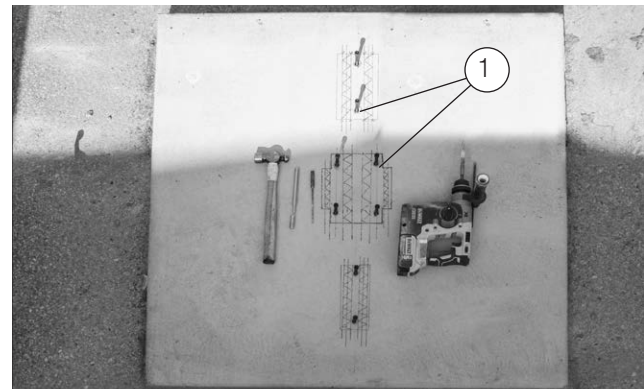

Figure 4-7:
6. Drill pilot holes for concrete anchors. Conductix-Wampfler recommends steel drop-in type anchors. See Figure: 4-7.
7. Be sure to drill depth of anchor only and hammer with set tool when anchor is flush with top of concrete. Follow concrete anchor manufacturer's instructions. See Figure: 4-7.